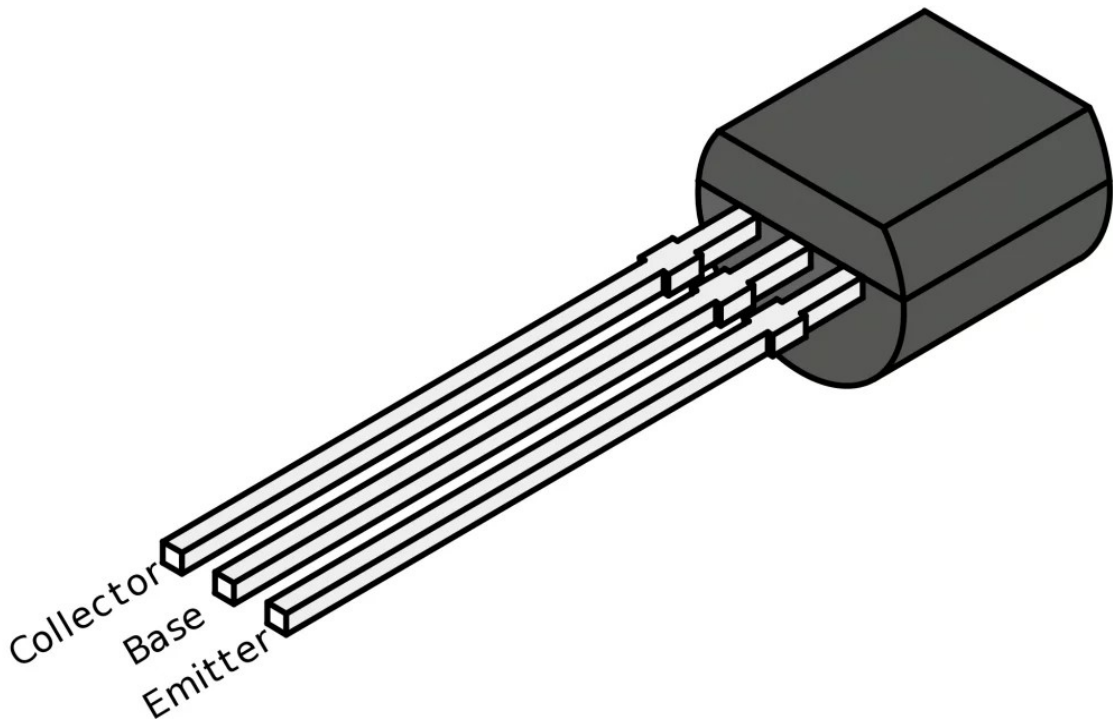

Figure 28: Physical appearance of a typical transistor
- e. The transistor you will be using today looks like the one shown in Figure 28